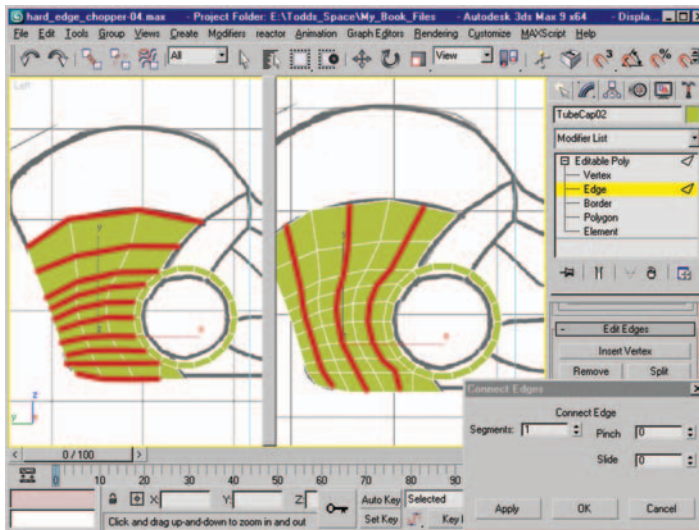

Figure 8.10 Edge-ring selections and resulting new edge loops after using Connect.
11. At the Edge subobject level, select the three edge rings shown in Figure 8.10 (left) and use Connect settings to create three new edge loops (Figure 8.10, right).